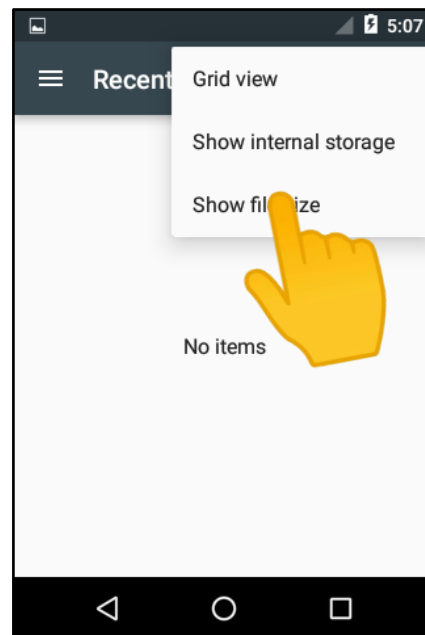

Figure 94: Tap Show Internal Storage
13. Tap **Show Internal Storage** (see **Figure 94**).